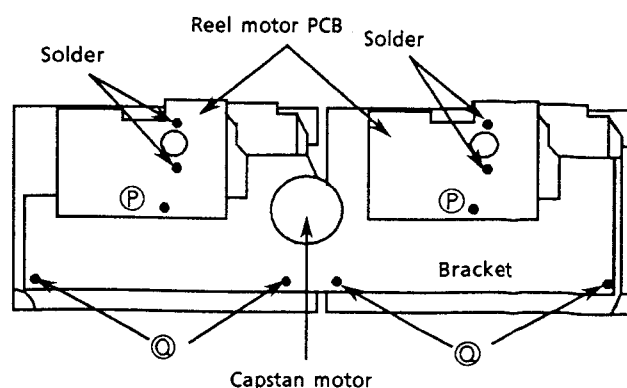

Fig 17
3. Remove the 4 screws ③ fixing the bracket (Fig 17).
3. Remove the screws ④ and the bracket (Fig 17).